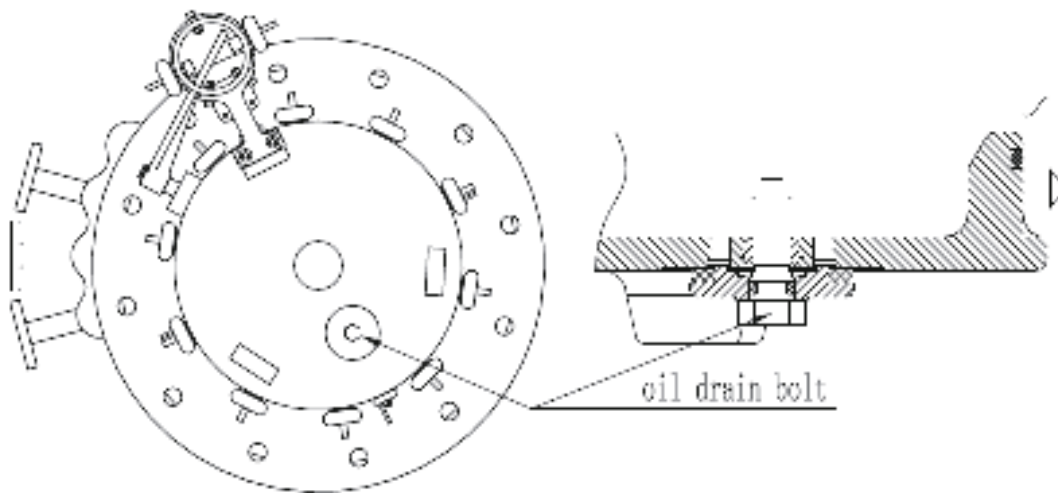

Figure 6.1.1
- Turn clockwise to loosen the oil drain bolt on the oil compartment bottom. (See Figure 6.1.1)